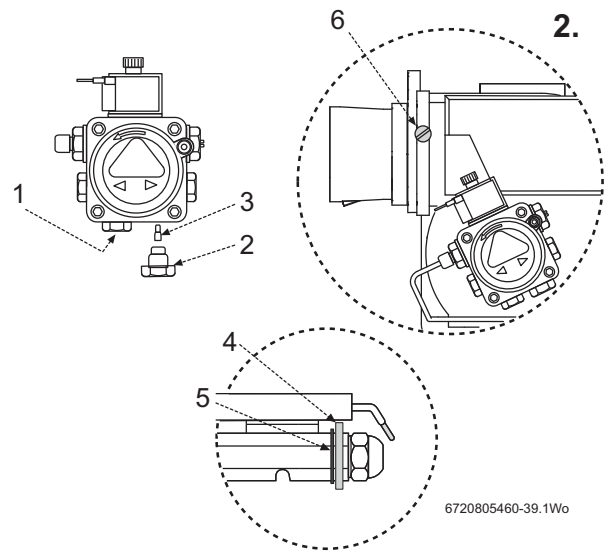
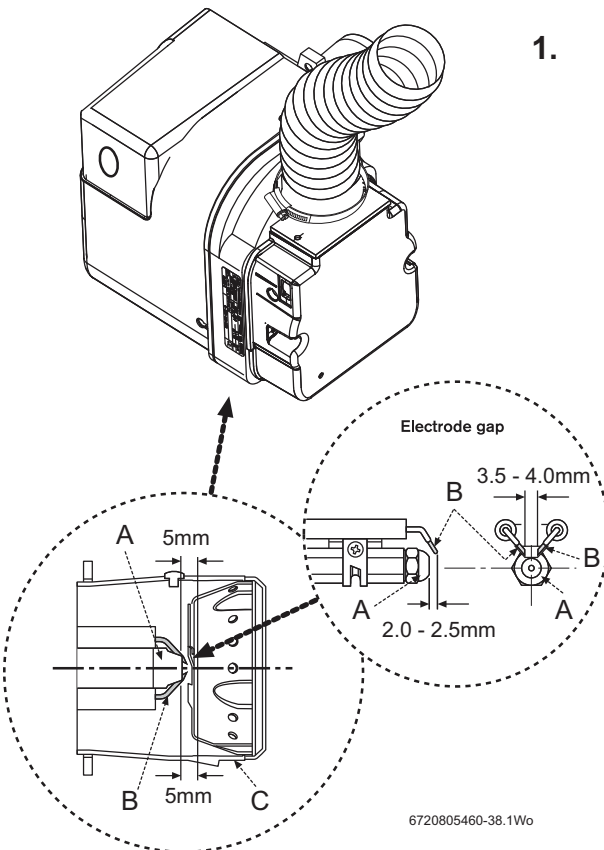

Fig. 50
Fig. 49 Nozzle and electrode alignment
1. Check that the nozzle (A) and the electrode (B) alignment settings are correct as shown in figure 49.
- ▶ Ensure that the nozzle (A) is aligned centrally within the combustion head (C).
- ▶ Before removing or fitting a nozzle (A), loosen screw (6 figure 50) and move the electrodes (B) forward. After refitting check that the electrode gaps are correct, as shown in figure 49.